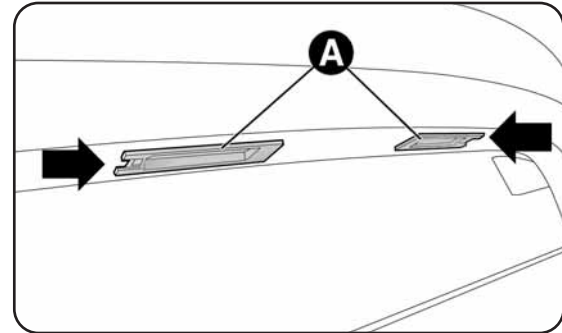

fig. 24
- operate in the area shown by the arrows and remove the lens cover unit A-fig. 24;